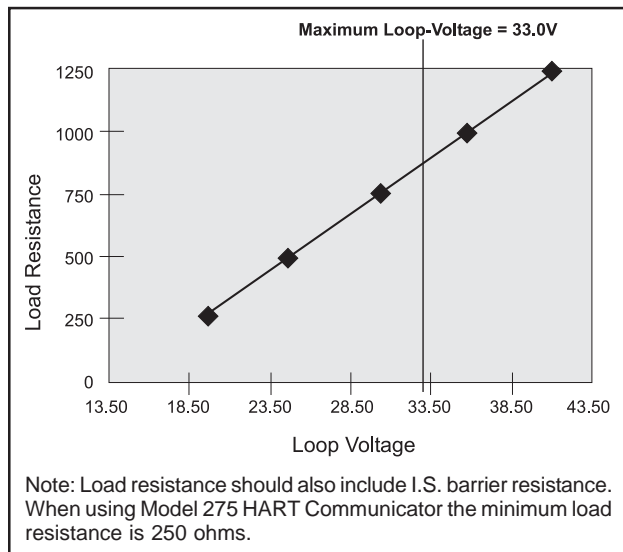

Figure 6 Power Supply vs. Maximum Load Resistance.
21.0 to 33.5 Vdc Power Supply, refer to Figure 6 below.